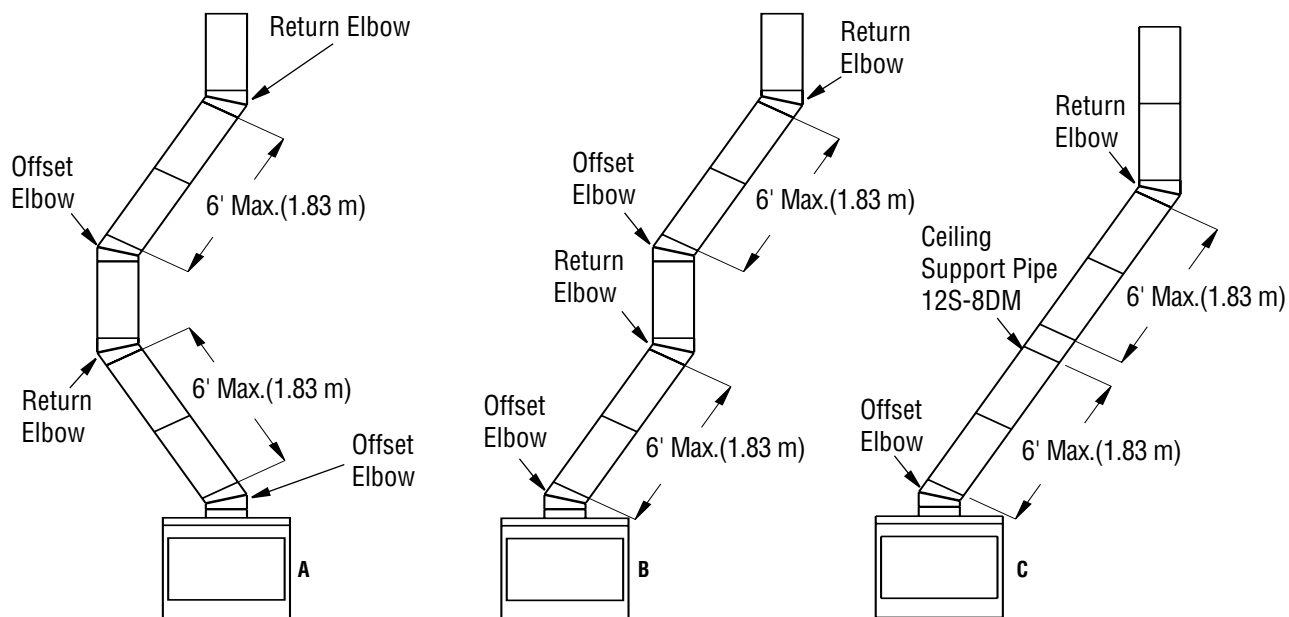

Figure 9 - Typical Offset Installation
1. To achieve desired offset, you may install combinations of 12", 18", 24", 36" and 48" length of double wall pipe (see offset chart, page 9, and Figure 9, page 8).
3. Maximum length of pipe between supports (return elbow or 12S-8DM) is 6' of angle run. Maximum of two 6' angle run sections per chimney system (see Figure 9, page 9).